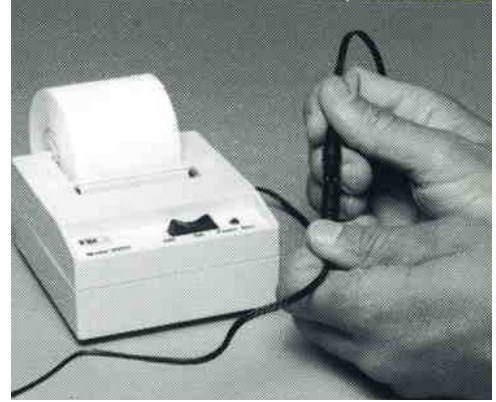

Figure I-18. Connecting the AC adapter to the printer
Step 4. Plug the cable from the printer's AC adapter into the cable from the printer. Ignore any polarity designation. Polarity is not important (fig. I-18).